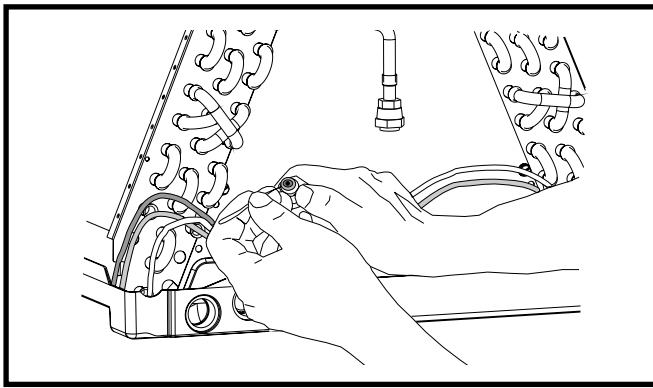

Figure 6. Restrictor Insertion into Distributor Body
6. Insert a light-gauge wire hook between the distributor body and the restrictor orifice while being careful not to scratch either part. Carefully remove the restrictor orifice from the distributor body. See Figure 6 \(page 9\).